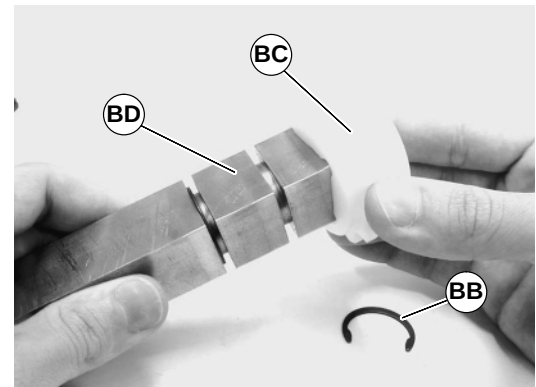

Figure 40
7. Remove snap rings (BB of Figure 40). Slide drive sprocket (BC) off the end of pulley (BD).